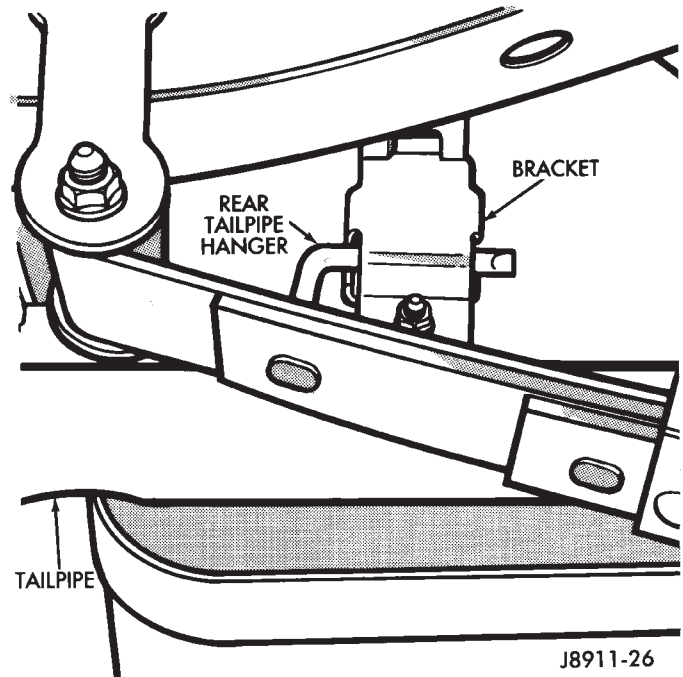

Fig. 9 Rear Exhaust Tailpipe Hanger/Bracket
- (3) Remove the exhaust tailpipe hanger/bracket (Fig. 9).